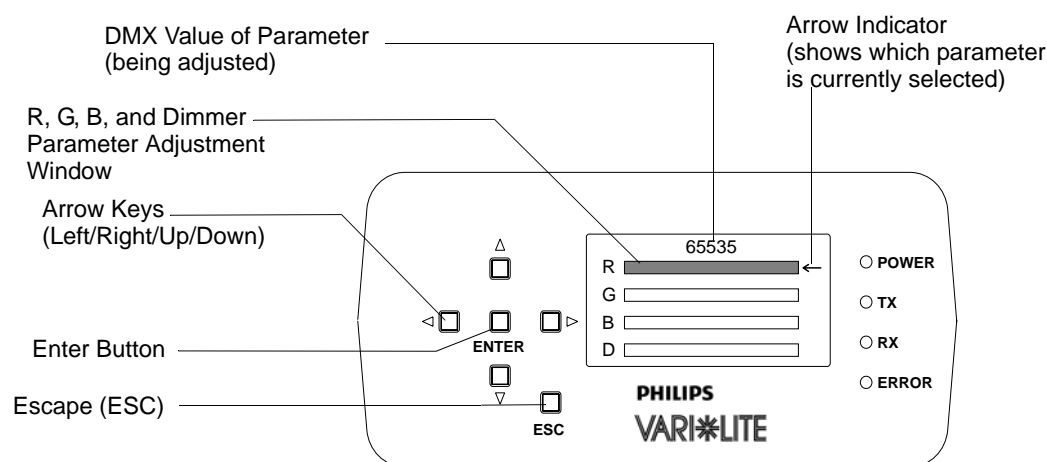

Figure 1-1: Manual Color Adjustment - LCD Display
As shown in Figure 1-1, a window will appear in the LCD Display that will allow access to Red (R), Green (G), Blue (B), and Dimmer (D) parameters that can be adjusted as desired.